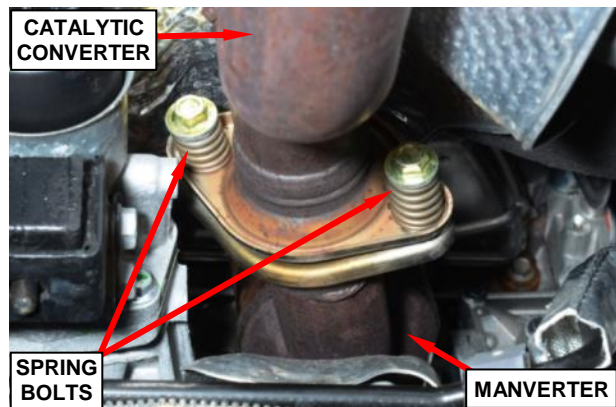

Figure 31 – Catalytic Converter Bolts
97. **For 4WD vehicles only;** Remove and discard the two spring bolts securing the catalytic converter to the exhaust manverter (Figure 31).